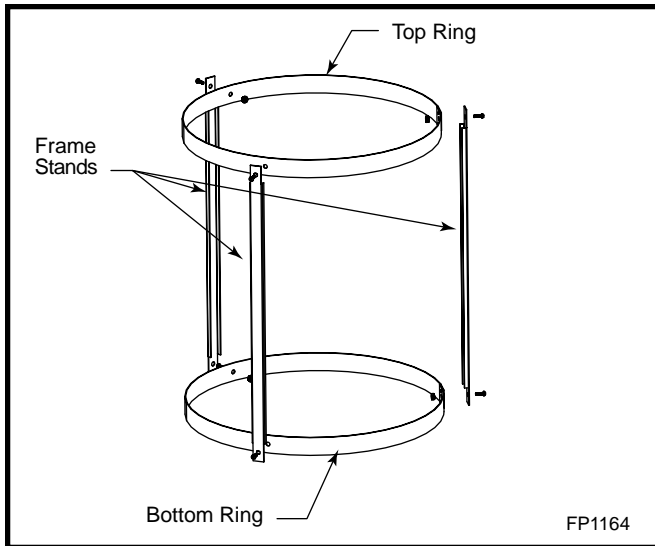

Fig. 16 Attach frame stands to top and bottom rings.
2. Attach all three frame stands to the top and bottom rings using bolts and nuts provided. (Fig. 16)